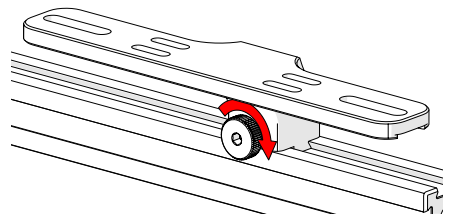

Fig. 73 - Tighten knob
2. Tighten the knob to lock the preamp bracket in place (Fig. 73).